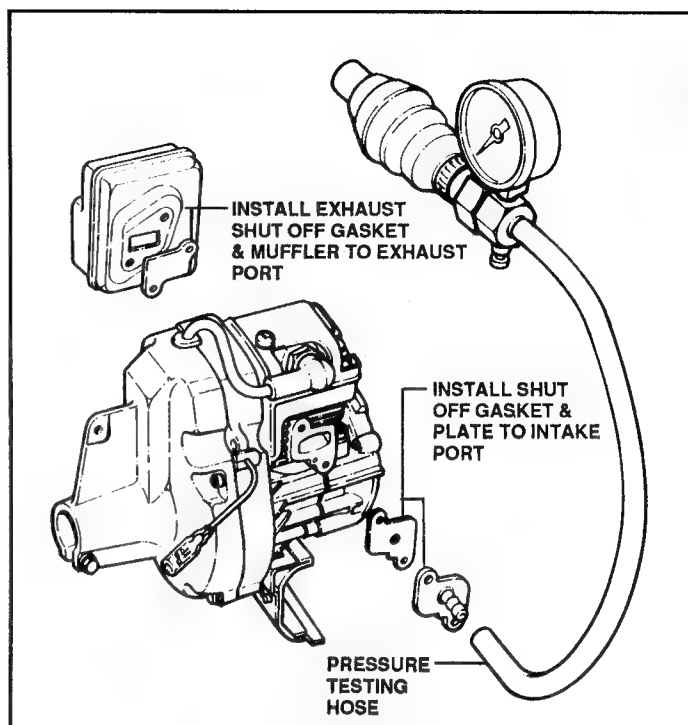

FIGURE 31
- (b) Place the exhaust shut-off gasket over the exhaust port and install the muffler. Install the intake gasket and shut-off plate. Use two (2) short M5x0.8 screws to retain the plate. With the sparkplug secure, pressurize the crankcase to 6 P.S.I. See Figure 31.